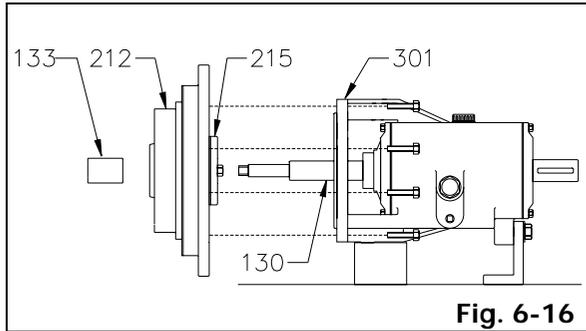

Fig. 6-16
- Remove shaft sleeve (133) from shaft (130).
- Remove eight (8) stuffing box cover bolts and lift off stuffing box cover (212) and seal cover (215) as a unit from bearing bracket (301) (Fig. 6-16).